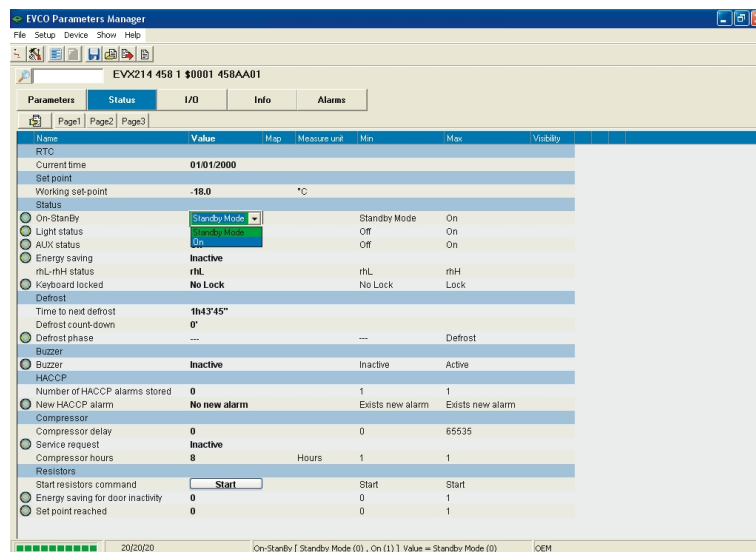

Fig. 19 - Machine states value modification screen.
3. Select the value from the drop-down menu (see Fig. 19).
(15) to show/hide the columns, use the right key on the mouse to click on the name of the column and then select the column from the quick choice menu
(18) on the basis of the predefined setting, the column is empty; to show the value, use the right key on the mouse to click on the machine state line and then select **Memo reference value** from the quick choice menu (any differences between the value stated in the **Value** column and that reported in the **Map** column are highlighted with another colour)